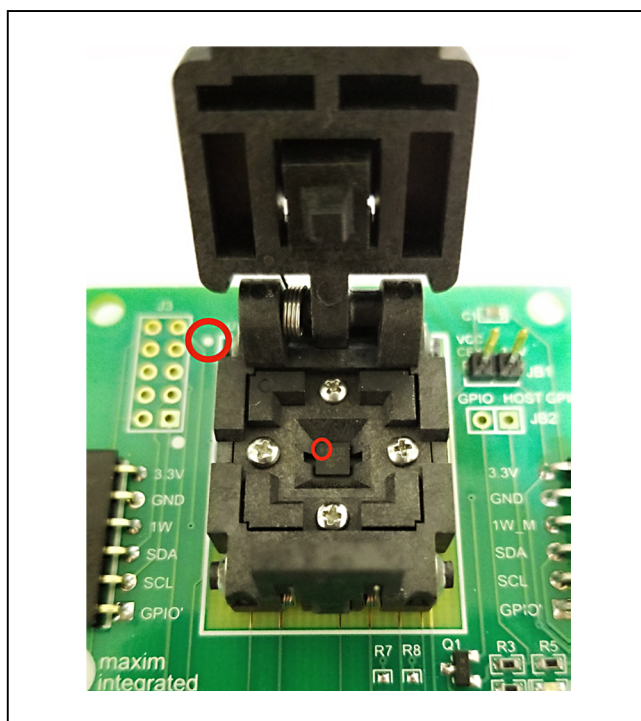

Figure 6. Orientation of the DS2478 in Burn-in Socket
- a) Open the socket and insert a DS2478ATB/VY+ as shown in Figure 6. **Note:** The plus (+) on the package must be aligned with pin 1 located next to the upper left corner of the socket's marking.